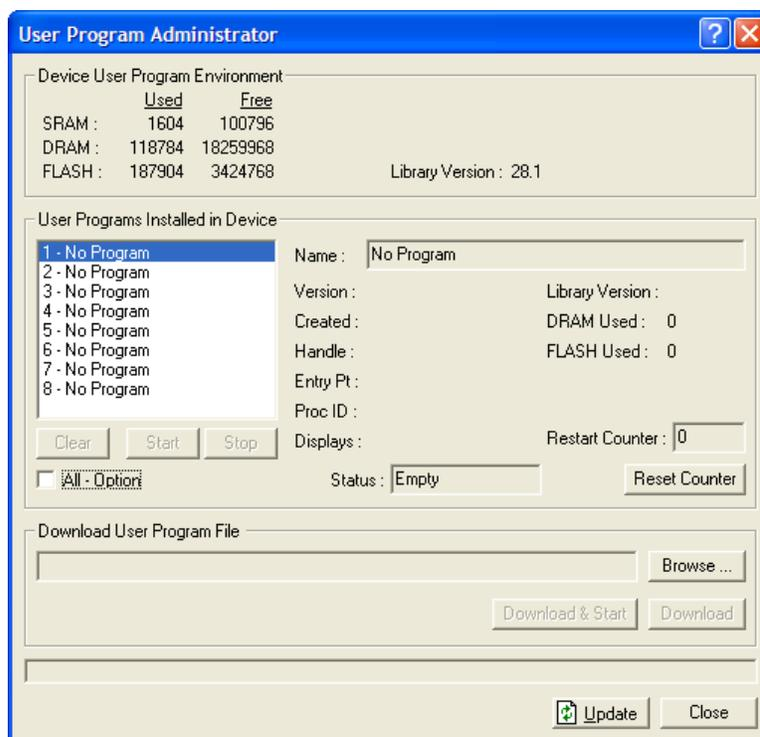

Figure 9. User Program Administrator
4. Select **Utilities > User Program Administrator** from the ROCLINK menu bar. The User Program Administrator screen displays (see *Figure 9*):